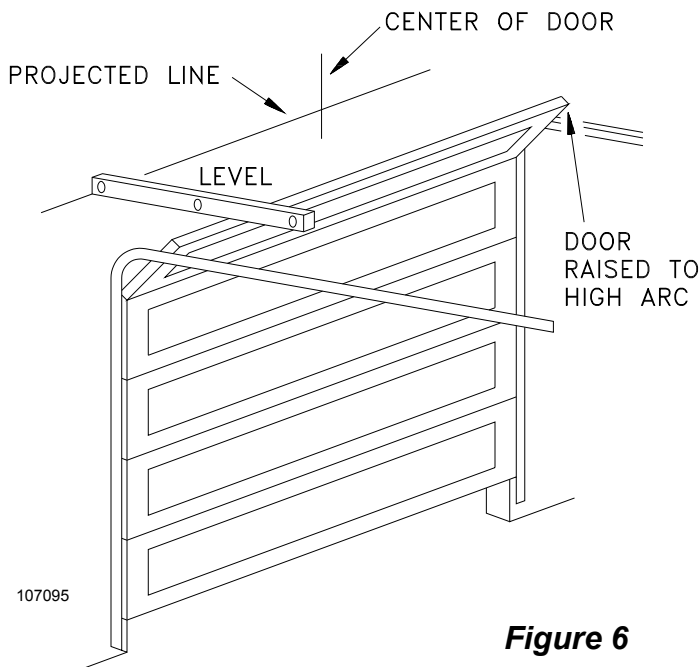

Figure 6
- 2) Slowly raise the garage door and observe the action of the top section. When the top section reaches the highest point (high arc), use a level and project a line from this point to the center of the door. See Figure 6.